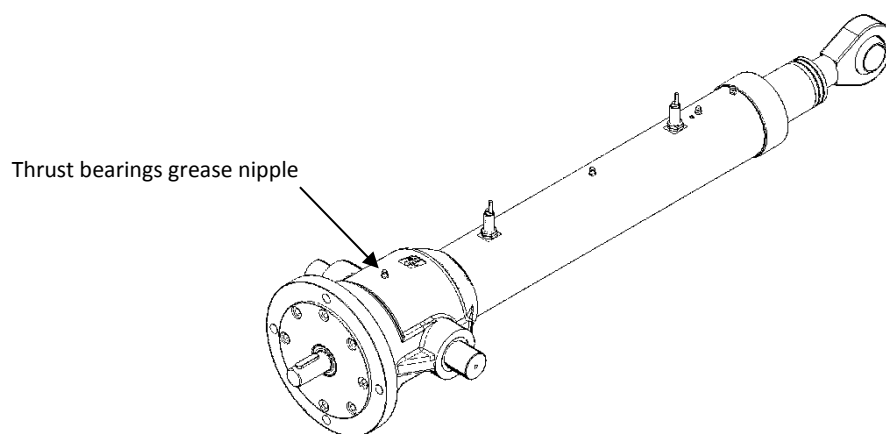

Figure 9.5 – Thrust bearings lubrication
- Restore the lubricant quantity of thrust bearings using proper grease nipple, as shown on Fig. 9.5.